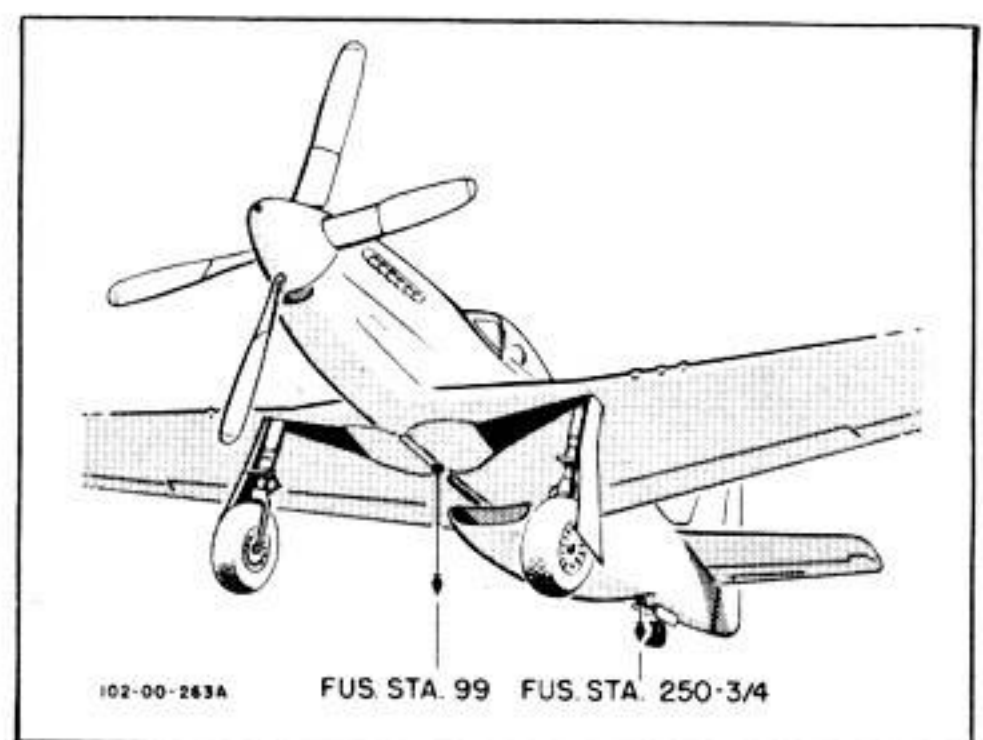

Figure 60—Airplane Datum Points
d. DATUM POINTS.—Two datum points are located on the lower surface of the airplane. (See figure 60.) One point is on the center rib of the wing at station 99 just forward of the wing spar, and the other is just forward of the tail wheel well at station 250.375. The points are well marked with red circles and are provided with AC366-F1032 nut plates for attaching plumb bobs.
(1) PARKING BRAKES.—The parking brake control handle is centrally located below the instrument panel. To apply the parking brakes, proceed as follows: